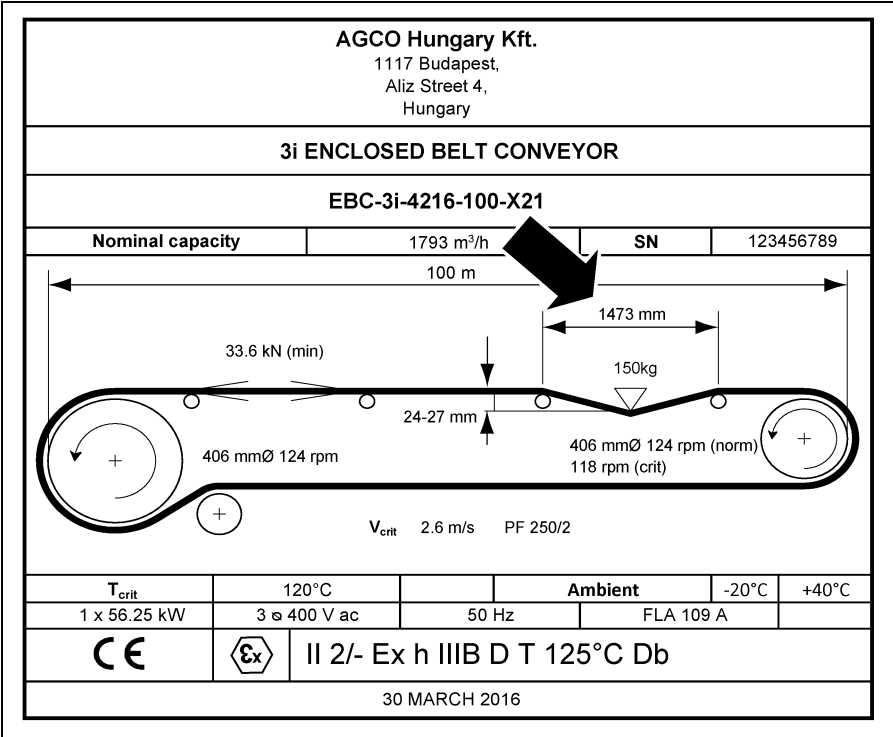

Figure 4U Correct Support Spacing for Belt Tensioning
- 5. Select a position at least three (3) idlers away from the head or tail pulley.
- 6. The support spacing should be as given on the rating plate. *(See Figure 4U.)*